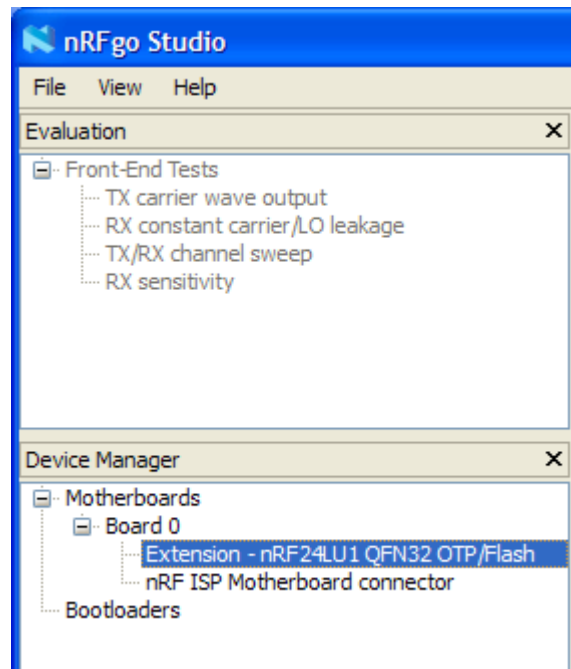

Figure 5. Device Manager field in nRFgo Studio interface
5. In your nRFgo Studio user interface, mouse-click the “+” box to the left of “Board 0” in the “Device Manager” tree view to expand the node. Please see Figure 5. on page 10.
6. After having expanded the “Board 0” node, click on the “Extension” selection that appears in the “Device Manager” tree view. See Figure 5.
4. In your nRFgo Studio user interface, mouse-click the “+” box to the left of “Board 0” in the “Device Manager” tree view to expand the node. Please see Figure 5. on page 10.
5. After having expanded the “Board 0” node, click on the “Extension” selection that appears in the “Device Manager” tree view. See Figure 5. on page 10.